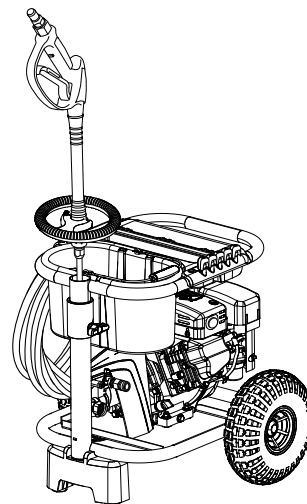

Fig. 17
See Figure 17.
- Grasp the handle at the rear of the pressure washer. Turn the top section of the pressure washer until it is fully extended as shown in figure 17. Retighten the pivot knob.